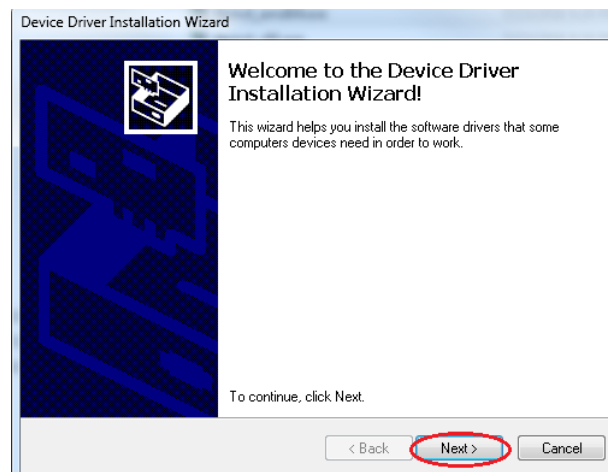

Figure 2.1: Virtual COM Port Driver Installation
4. Click ‘Next’ when driver installation wizard appears (Figure 2.1) and wait.